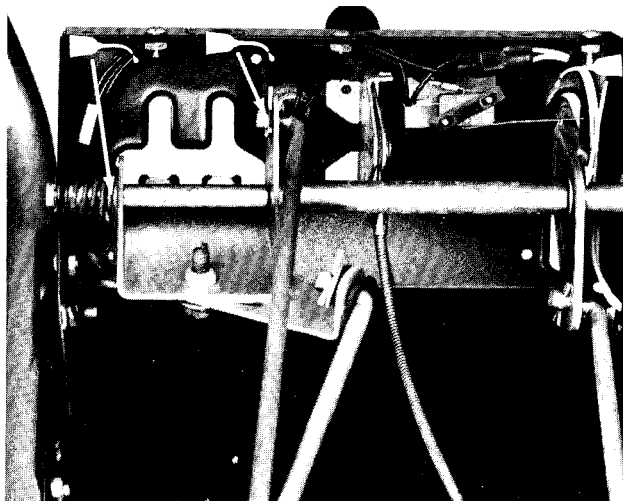

Figure 26
1. Lubricate pivot points in the control linkage with a few drops of SAE 10W-40 oil (Figs. 26 and 27). Wipe up any excess oil.